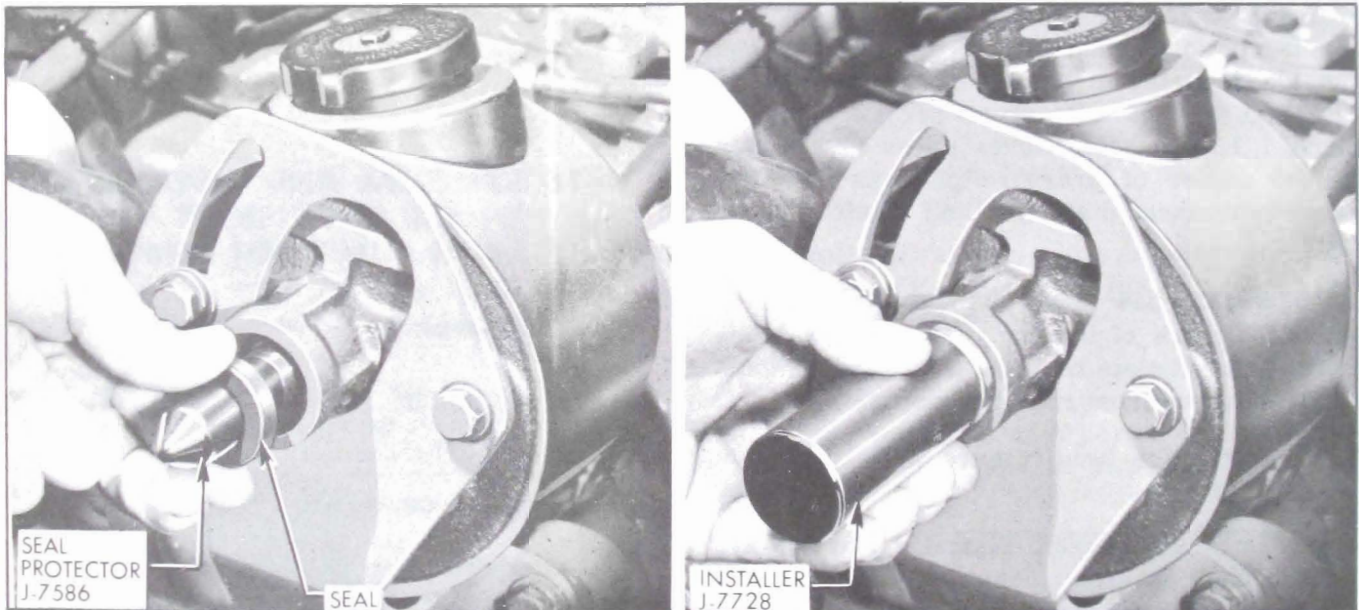

Figure 8-62—Installing Oil Pump Shaft Seal
1. Place seal Protector J-7586 over shaft. Lubricate new seal with automatic transmission oil and drive in pump housing spring side first with Installer J-7728. See Figure 8-62. Just bottom seal in housing. Excessive force must not be used when driving seal in place.